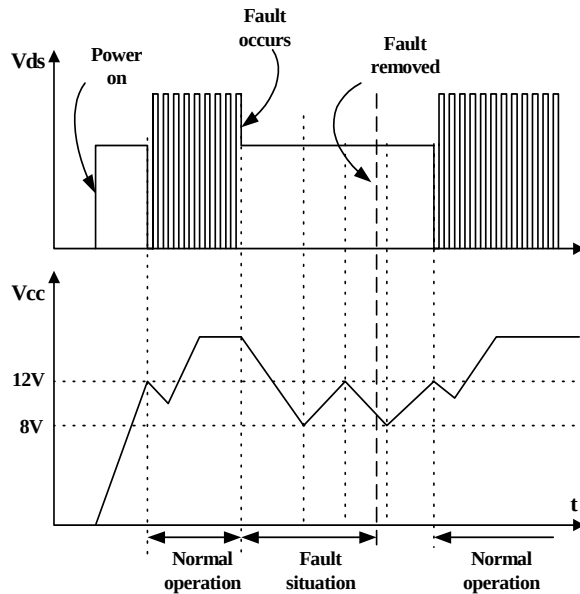

Figure 6. Auto restart operation
3. Protection Circuit : The FSDM07652RB has several self protective functions such as over load protection (OLP), over voltage protection (OVP) and thermal shutdown (TSD). Because these protection circuits are fully integrated into the IC without external components, the reliability can be improved without increasing cost. Once the fault condition occurs, switching is terminated and the Sense FET remains off. This causes V_{cc} to fall. When V_{cc} reaches the UVLO stop voltage, 8V, the protection is reset and the internal high voltage current source charges the V_{cc} capacitor via the V_{str} pin. When V_{cc} reaches the UVLO start voltage, 12V, the FSDM07652RB resumes its normal operation. In this manner, the auto-restart can alternately enable and disable the switching of the power Sense FET until the fault condition is eliminated (see Figure 6).